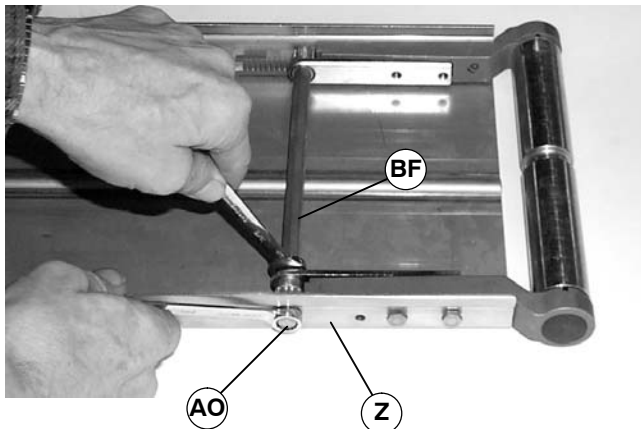

Figure 31
1. While holding hex pinion (BF of Figure 31) with a 3/8" open-end wrench, loosen M6 hex head cap screw (AO).